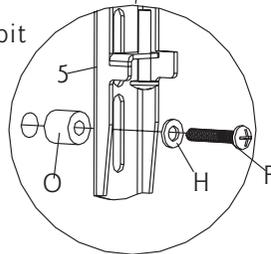

Fig 3b
2. Some displays have curved backs with recessed mounting lands (Fig. a). It will require the use of spacer. For this display, install a 9/16" spacer (O) between display and the bracket. As shown in Fig 3b.